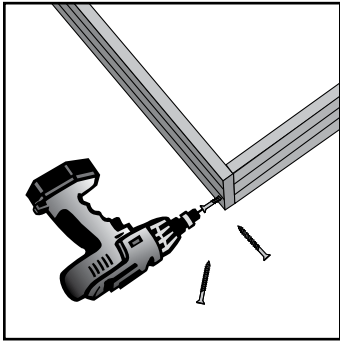
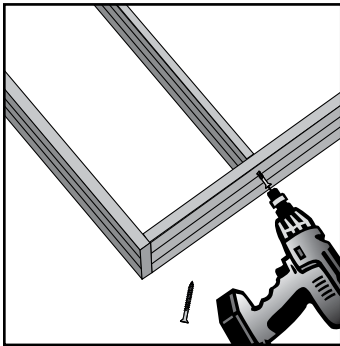

Fig. 11
Fig. 12
3. Attach and fasten jamb legs to the head jamb, using 1-1/2" screws into the pre-drilled holes on the jamb leg. Make sure the edges of the head and side jamb line up and are even with each other. Snug screws so corners are square and tight, with no gaps (**Fig. 11 & Fig. 12**).